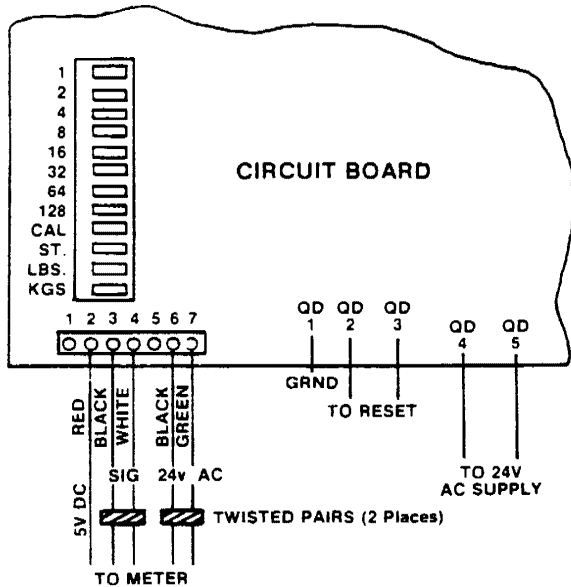

Fig. 7
1. Place meter cable through right hand cord grip in bottom of control box. Insert wires from meter cable into pin connector according to Fig. 7 and 8. Use a small screwdriver to secure wires into place. Note each wire except the red is paired with a black. Be sure to secure the properly paired black wire in the correct position.
2. Run 412369 electrical cord into left-hand grommet on control box and attach to male terminals of P.C. board labeled 24V AC. (Fig. 7)
5. Connect wires of EWM control box to appropriate wires running from the power supply. (Figs. 7 and 9)
6. One power supply may be hooked up to eight (8) EWM control boxes. If additional units are required, additional 313370 power supplies must be added or a 313296 multi-circuit transformer.
1. Connect flowhead to electronic module, mating the numbers on the module to the number on the connector pin. (See Figs. 7 and 8) Check wiring to insure that the connections match that of the guide printed on the P.C. card.